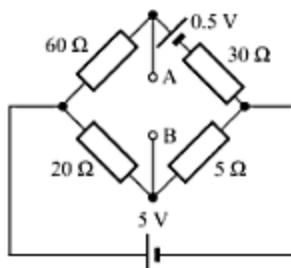

Fig. 4.50
20. Using Thevenin's theorem, calculate the current that would flow in a $76\text{-}\Omega$ resistor connected between terminals A and B of the circuit shown in Fig. 4.50. [Ans. 10 mA]